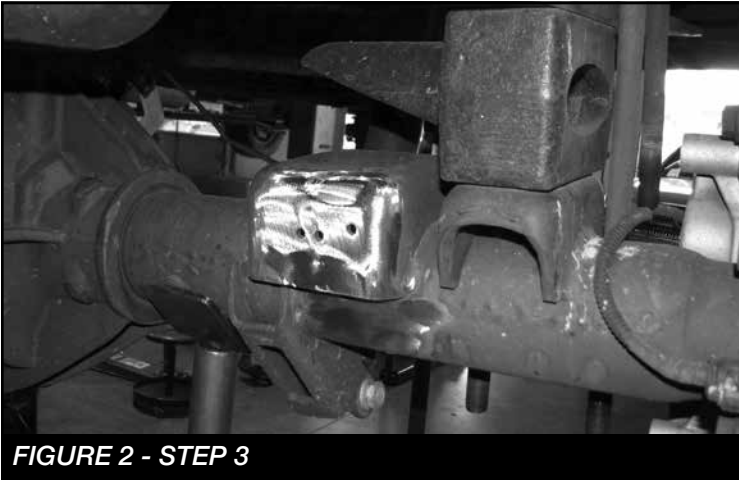

FIGURE 2 - STEP 3
3. Sand the coating off the front of the axle bump stop pad and axle housing. **SEE FIGURE 2**